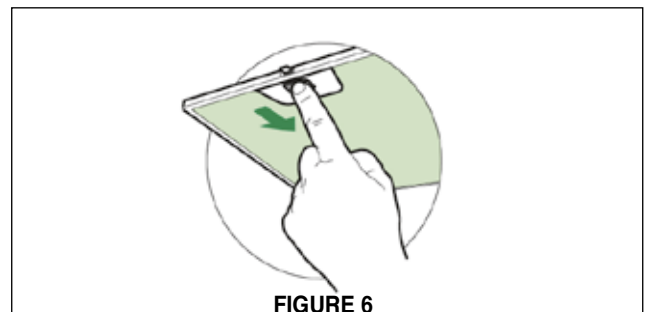

FIGURE 6
4. Open the upper panel by pressing the L button (see Control Panel on page 8). Using two hands, remove the grease filters one at a time by pushing the filter forward and pulling the handle down. (FIGURE 6)